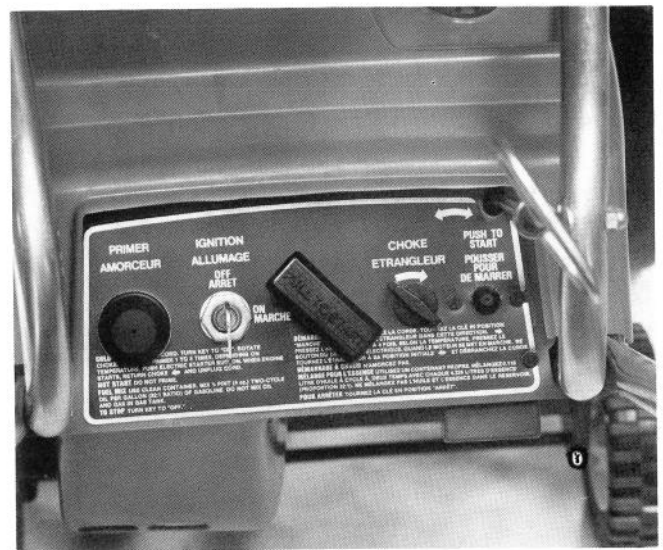

Figure 6
4. Electric Start Plug-in (Fig. 6) — Insert electric start cord. Plug opposite end of cord into 115 VAC electrical outlet to provide power for electric starter.
5. Electric Starter (Fig. 6) — Push start button to start engine.